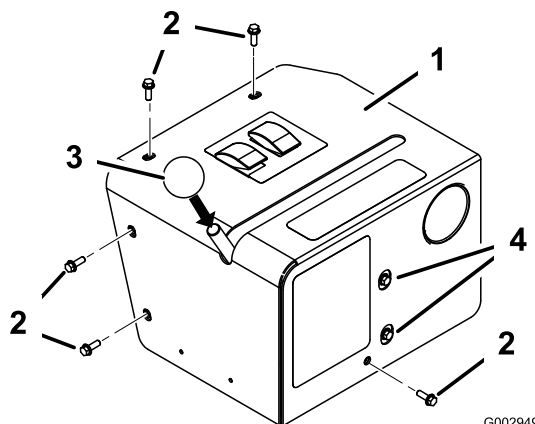

Figure 31
18. Install the control box cover to the control box mounting bracket (Figure 31), using 5 flange-head bolts (1/4 x 3/4 inch).
19. Install the knob onto the valve control lever (Figure 31).
20. If necessary, loosen bolts on the front panel and reposition valve assembly to allow free travel of the lever in the slot (Figure 31).